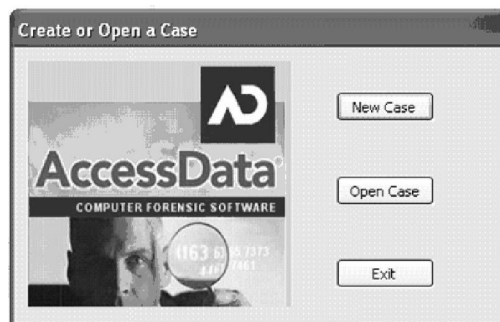

Figure 9 – FTK Welcome Screen
2. When FTK™ comes up, it will immediately ask for a New Case, to Open an Existing Case or Exit. Please refer to Figure 9 below.